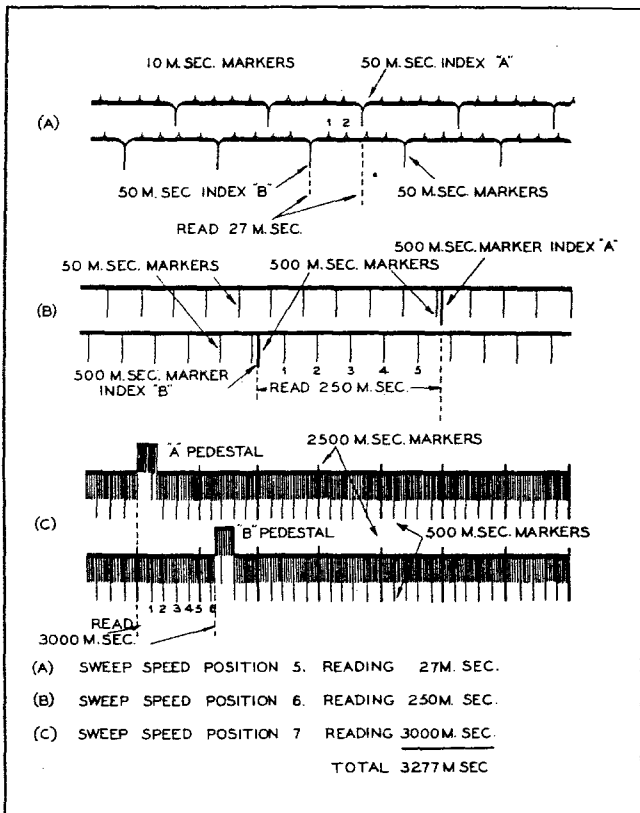

Figure 3-20. Typical Pattern for Time Calculations
a. Turn "SWEEP SPEED" to position "5." (See part A, fig. 3-20.) The two traces should again appear, exhibiting the 10- and 50-microsecond markers. The trace separation is such that the 50-microsecond markers on the upper trace almost touch the lower trace. Using any 50-microsecond marker on the B-trace as an index, read the space in microseconds between it and the first 50-microsecond marker to its right on the A-trace. The reading for part A of figure 3-20, is 27 microseconds.
A-trace, count the number of complete 50-microsecond spaces between it and the 500-microsecond marker on the A-trace. Count only full spaces; ignore incomplete spaces. The reading for part B of figure 3-20 is 250 microseconds; add to this the previous reading of 27 microseconds to give a total of 277 microseconds for parts A and B of figure 3-20.
c. Turn "SWEEP SPEED" to position "7;" the two traces should then show the A and B pedestals. The position of the B pedestal is the result of pulse-aligning processes through "SWEEP SPEED" positions "1," "2," "3," and "4." Using the left edge of the A-pedestal as an index, count the number of full 500-microsecond spaces between it and the left edge of the B-pedestal. The incomplete 500-microsecond space represents the two previous readings taken at "SWEEP SPEED" positions "5" and "6." The reading for position "7," part C of figure 3-20, is 3000 microseconds; add to this the previous readings, 27 and 250 microseconds (for "SWEEP SPEED"
positions "5" and "6"), to give a total of 3277 microseconds for parts A, B, and C of figure 3-20. Use this reading to determine a line of position on a chart prepared for the region in which the readings are taken. To obtain a "fix" or intersection of two lines of position, follow the entire procedure just outlined, using either the "CHANNEL" selector on the receiver or the "STATION" selector on the indicator, or both, to select another pair of ground stations.